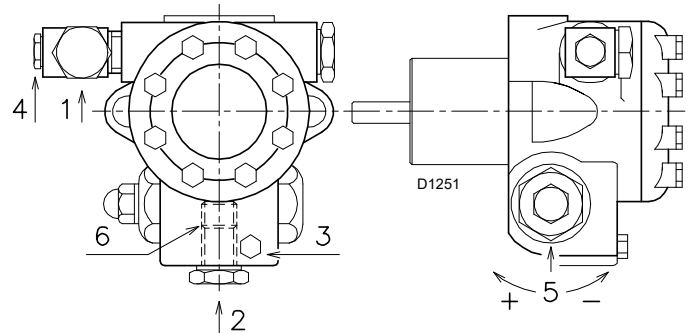

Fig. 21
- The pump can be considered primed when the light oil starts coming out of the screw 3)(Fig. 21). Stop the burner: set switch 1)(A) to "OFF" and tighten the screw 3).